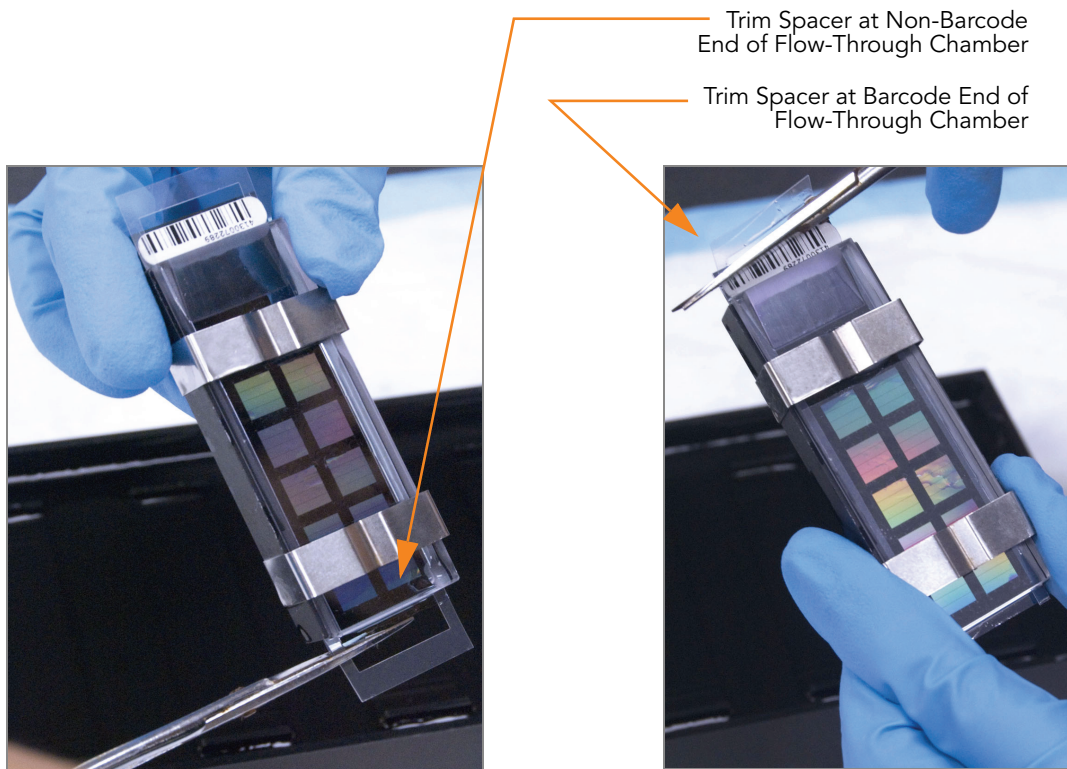

Figure 60 Trimming Spacer Ends from Flow-Through Chamber Assembly
9. With scissors, trim the spacer at the non-barcode end of the assembly (Figure 60). Slip the scissors up over the barcode to trim the other end.